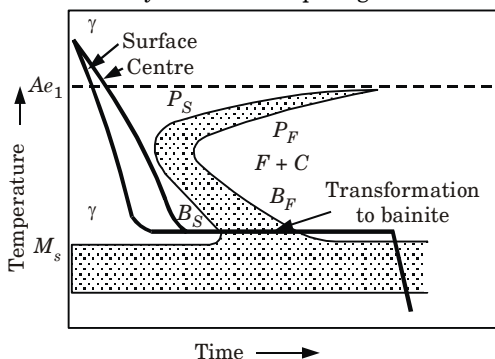

Fig. 3. Heat treatment cycle for austempering.
5. Heat treatment cycle for austempering is shown in (Fig. 3).